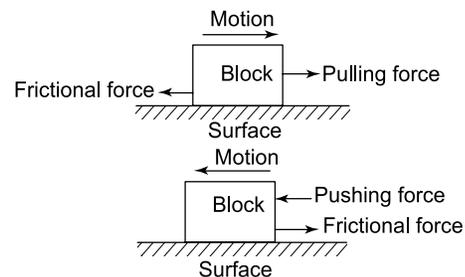

Figure 16.1
- (iii) The direction of the frictional force is always opposite to the direction of motion. Thus the frictional force opposes motion, as shown in Figure 16.1.